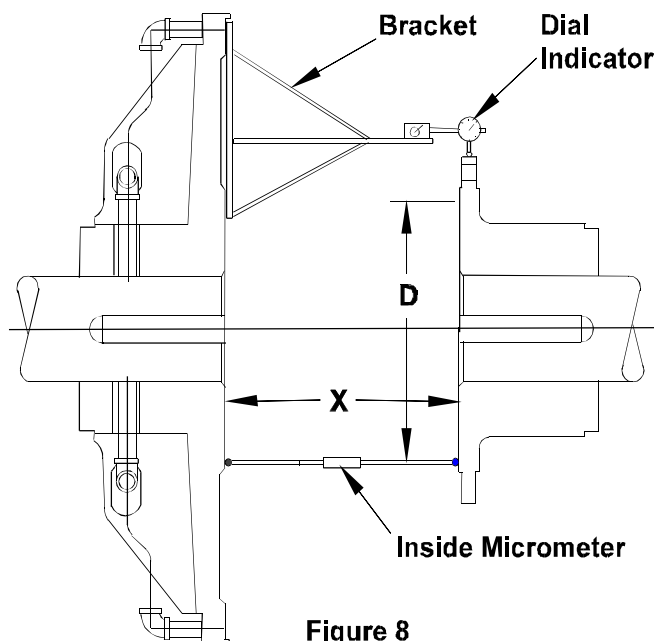

Figure 8
**Not to be exceeded 0.0005 inch per inch (.0005mm/mm) diameter at which readings are taken (“D” on Fig. 8).**
- 2.4.1 Foundations must be set so distance “X”, shown in Figure 8, is established. If the clutch is mounted on a shaft having plain bearings, make sure the shaft is centered within the bearings when establishing the “X” dimension. Refer to Table 2 for appropriate “X” dimensions.
- 2.4.2. Fabricate a rigid bracket for supporting a dial indicator and attach to the spider. See Figure 8.